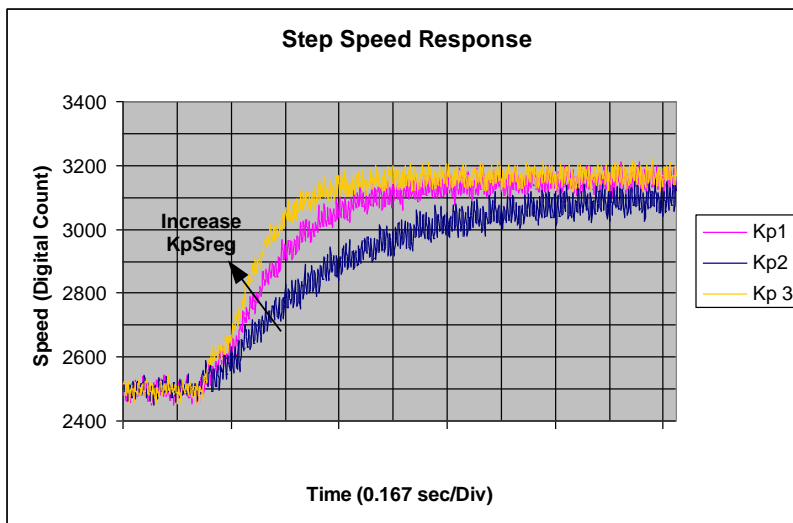

Figure 24—Step Speed Response under Different KpSreg Gains
- 1) **Tuning of KpSreg.** Run the drive at a convenient speed; say 30% of the rated rpm. Perform a small step speed change (step size of 5 - 10% of rated speed) with **KxSreg set to zero**. The step response can be achieved by setting a fast speed ramp in MCEWizard100. Under such conditions, the first order speed response is expected as shown in Figure 24. This figure shows the speed responses using three different proportional gains (KpSreg = Kp1, Kp2, Kp3).